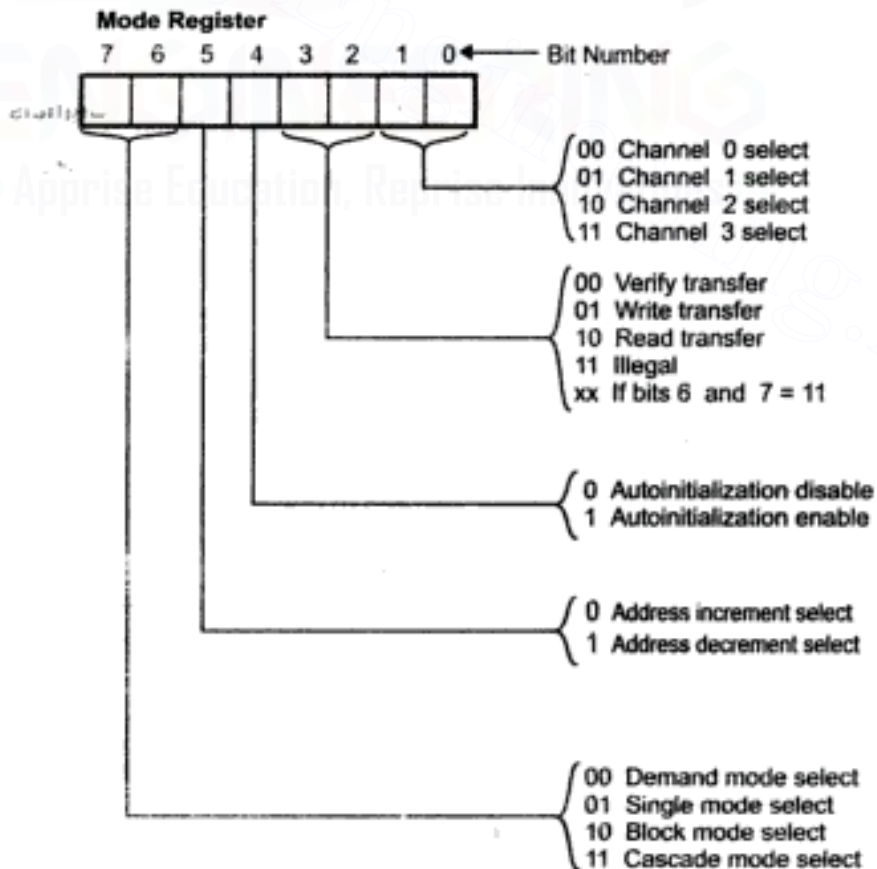

Fig. 6.21 Mode register
**7. Mode Register :** Each channel has a 6-bit mode register associated with it. The bit pattern of the mode register is as shown in the Fig. 6.21.